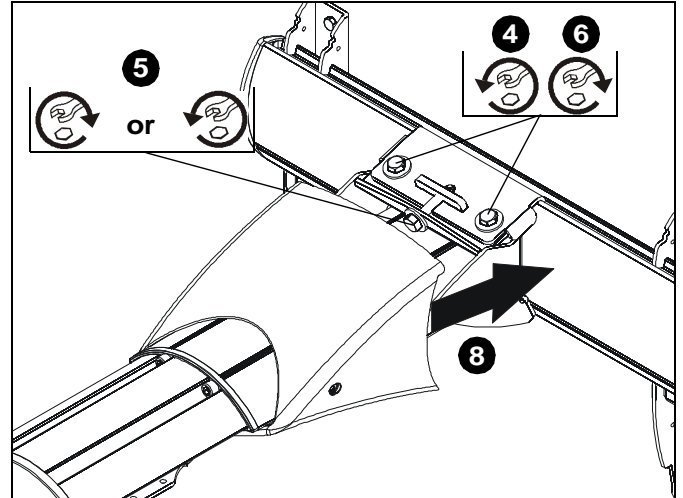

Figure 13
4. Loosen two bolts on either side of pitch adjustment screw. (See Figure 13)
5. Adjust pitch adjustment screw until mount is at desired pitch level. Turn clockwise to raise mounting level or turn counterclockwise to lower mounting level. (See Figure 13)
6. Tighten two bolts on either side of pitch adjustment screw. (See Figure 13)
8. Slide outer cover of mount (A) back against mounting bracket. (See Figure 13)